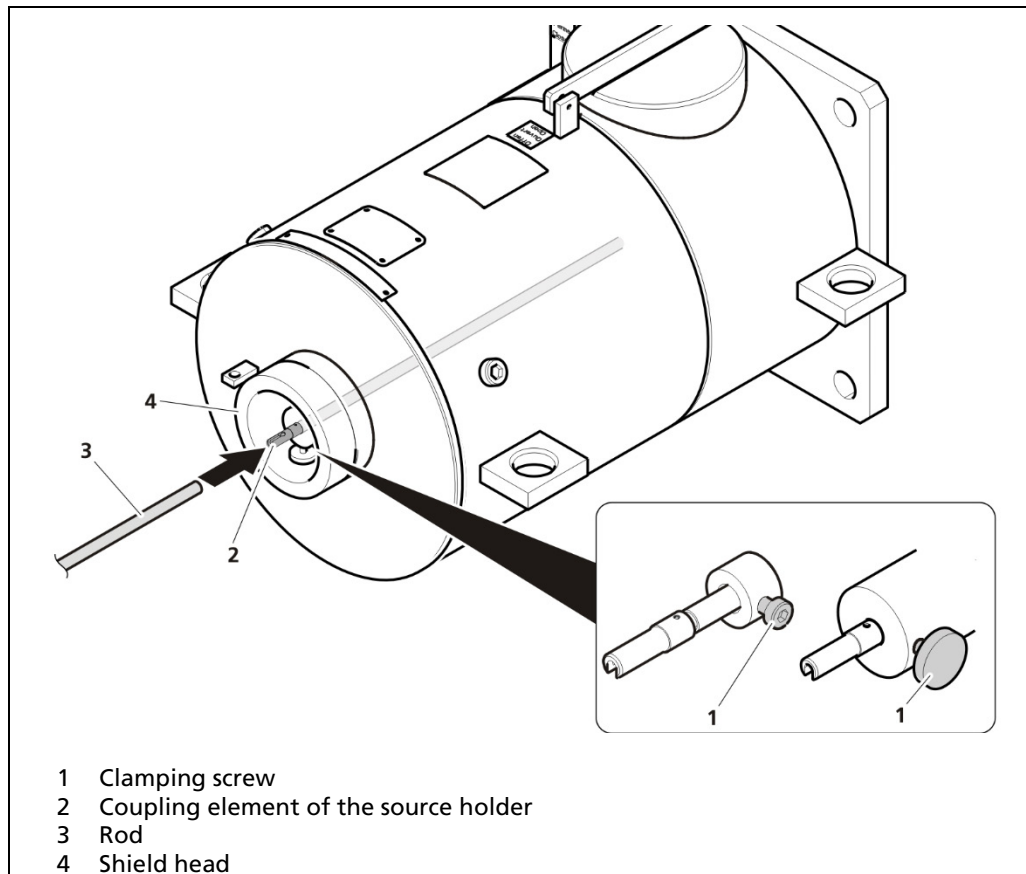

Fig. 19 Dismounting the source from the shield, example graphic: Point source shield with 1 source
3. If necessary, open the clamping screw (Fig. 19, item 1).
4. Push the source on the coupling part of the source holder (Fig. 19, item 2) with a rod (Fig. 19, item 3) out of the shield until it protrudes down from the mounting flange.